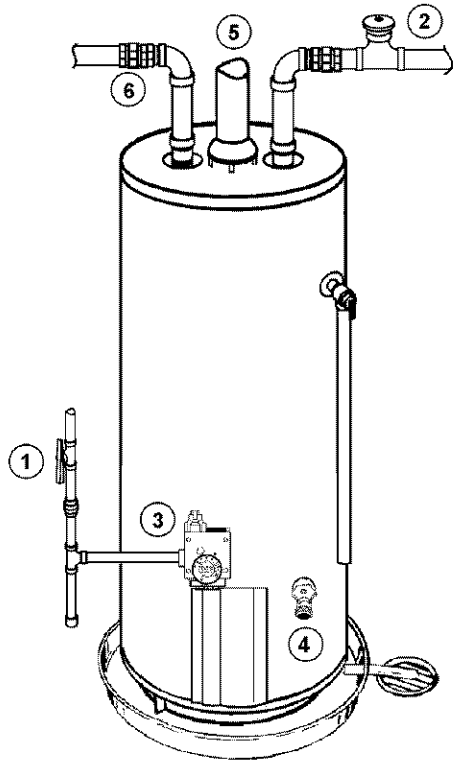

FIGURE 2.
If the main gas line Shut-off valve serving all gas appliances is used, also shut "OFF" the gas at each appliance. Leave all gas appliances shut "OFF" until the water heater installation is completed, see Figures 2 and 3.
- ② Turn "OFF" the water supply to the water heater at the water shut-off valve or water meter. Some installations require that the water be turned off to the entire house, see Figures 2 and 4.
- ④ Attach a hose to the water heater drain valve and put the other end in a floor drain or outdoors. Open the water heater drain valve. Open a nearby hot water faucet which will relieve pressure in the water heater and speed draining. The water passing out of the drain valve may be extremely hot. To avoid being scalded, make sure all connections are tight and that the water flow is directed away from any person, see Figures 2 and 5.